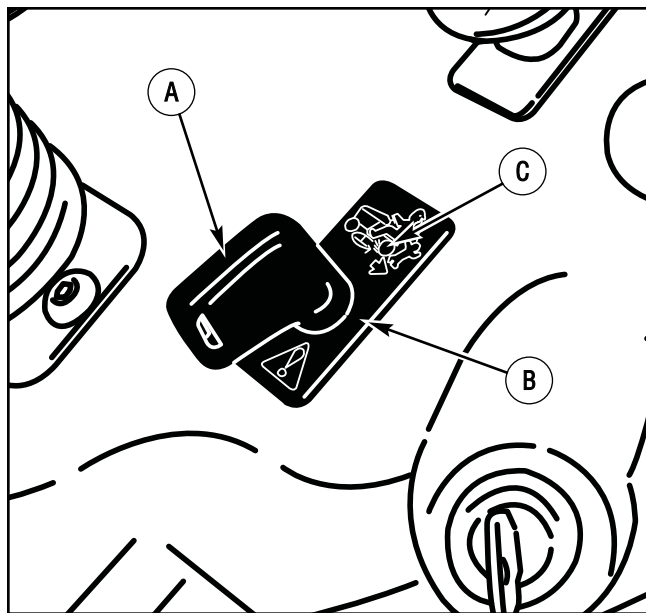

Figure 16: Reverse Mowing Option (RMO)
2. Insert the supplied key into the **RMO switch**, located to the right of the steering wheel bellows (Figure 16).